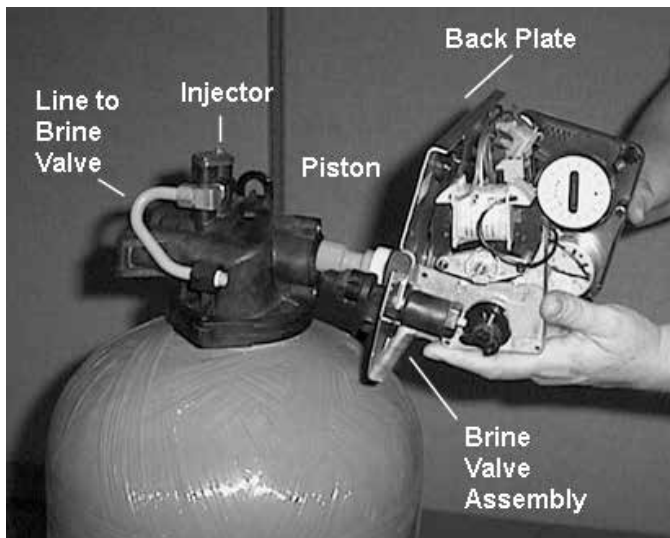

Figure 6
5. Grasp the back plate on both sides and slowly pull end plug and piston assembly out of the valve body (see Figure 6) and lay aside.